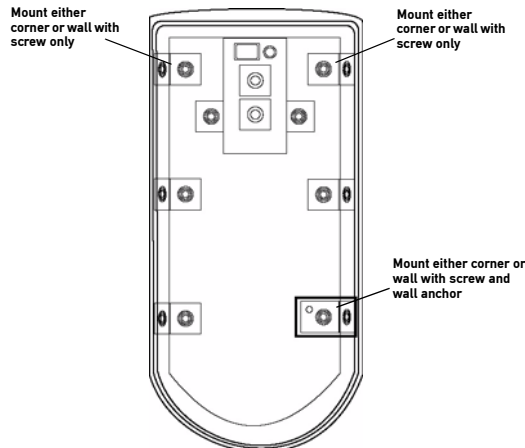

Figure 3 EN1260 mounting back plate
- a. If using the wall tamper function for increased security, mount the housing back plate per Figure 3, ensuring the tamper switch is depressed..